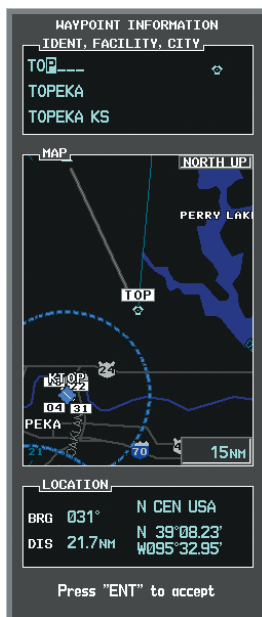

Figure 5-105 Entering V4 Entry Point
- c) Turn the small **FMS** Knob to display the Waypoint Information Window. Enter the desired entry point for V4, Topeka VOR (TOP), as shown in Figure 5-105.